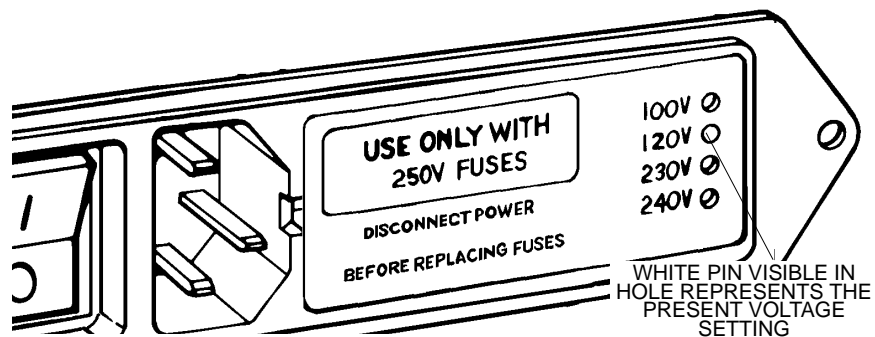

Figure 3-4. Input Line Voltage Adapter
- (a) Inspect the line input connector. There are four holes in a vertical line at the right side of the connector, each corresponding to a different line voltage. The current voltage setting is indicated by a white plastic pin visible in one of the holes. (see Figure 3-4).